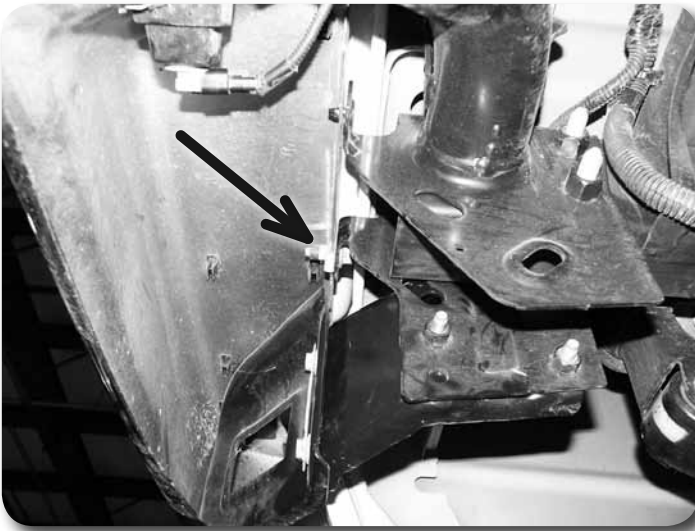

Figure 11
33. Remove the two (one per side) bolts mounting the top lip of the bumper to the frame **Figure 11**. Save bolts.